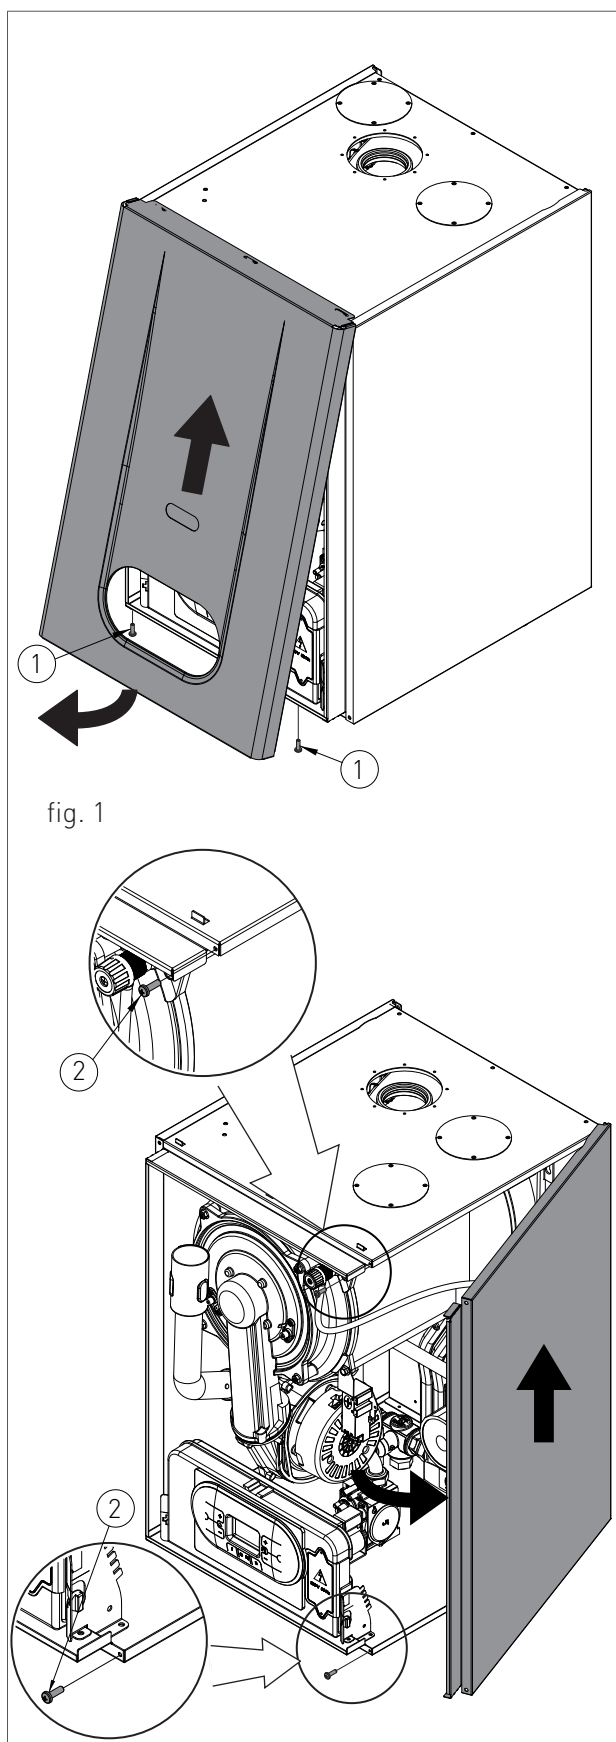

fig. 1
- › remove the fastening screws (1 - fig.1) placed on the lower edge of the front panel;
- › grab the front panel from the bottom and remove it pulling it to yourself and then upwards (see fig. 1).
- › remove the fastening screws (2 - fig.1) placed on the front edge of the side panel;
- › grab the bottom of the panel and remove it by moving it sideways and then pulling it upwards (see fig. 1).
- › Grab at the same time the support brackets of the control panel (fig. 1) loosening them and turn the panel downwards;
- › unscrew the four fastening screws 1 - fig. 1;